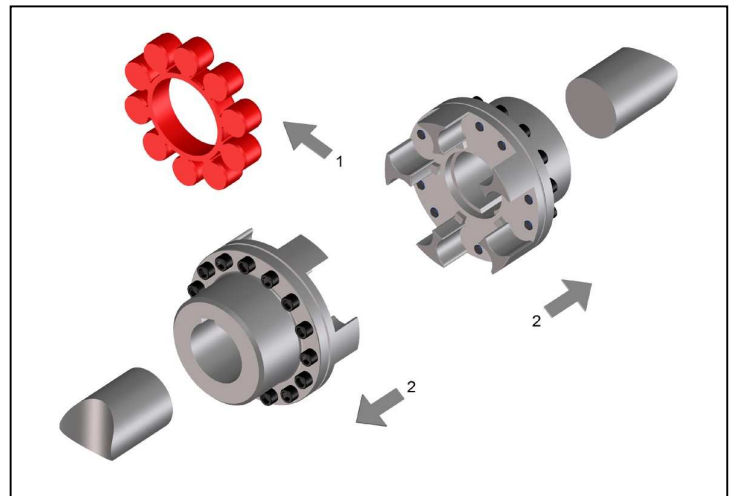

Fig. 3
- Remove the elastic buffer ring (Fig. 3, pos. 1).
- Mount the flange hub complete with the claw rings attached in the proper position on the shaft ends (Fig. 3, pos.2).